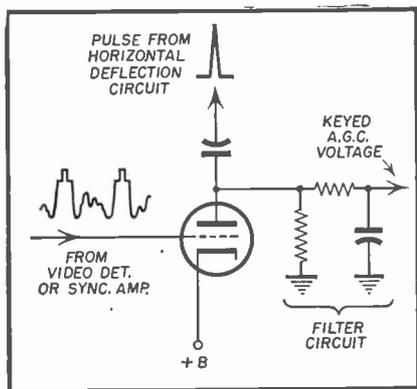
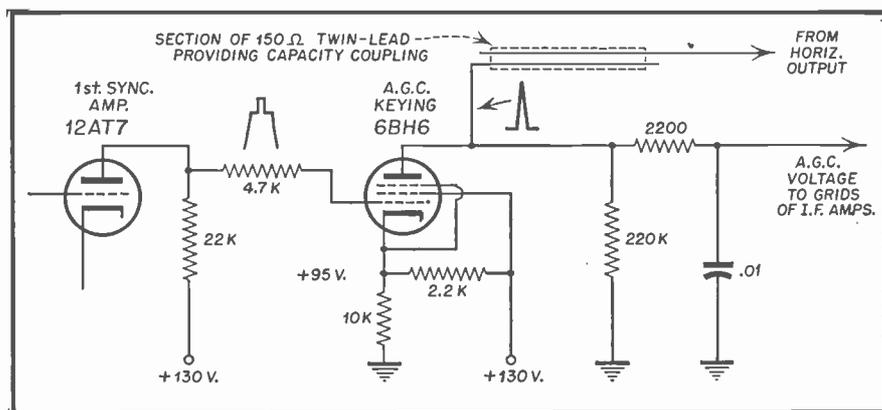

Fig. 2. Basic circuit of keyed a-g-c system.
Fig. 3. Basic circuit of keyed a-g-c system used by Westinghouse.
*Figure 2* shows the basic keyed a-g-c circuit. Here, a small positive voltage is applied to the cathode which, in
Figure 3 indicates the type of keyed a-g-c employed by Westinghouse in various models of their receivers using the V-2150 series chassis. The similarity between this and Fig. 2 is readily apparent, the only innovation being the use of a 150 ohm section of twin lead from the horizontal circuits to the plate of the 6BH6
Fig. 2. Method of converting individual color signals into 3.8 mc sine waves. At the receiver a separate sampling circuit separates the colors and impresses them on the picture tube in their proper phase and amplitude relations.
The action of the sampling system can be seen from the waveforms of Fig. 2. Each of the individual colors in accordance with their respective amplitudes and variations are sampled and produce corresponding pulses at the output of the sampling system. Again, the repetition rate of these pulses is the 3.8 megacycles interruption frequency, and as they are passed through the mixer video amplifier, which has a frequency response no